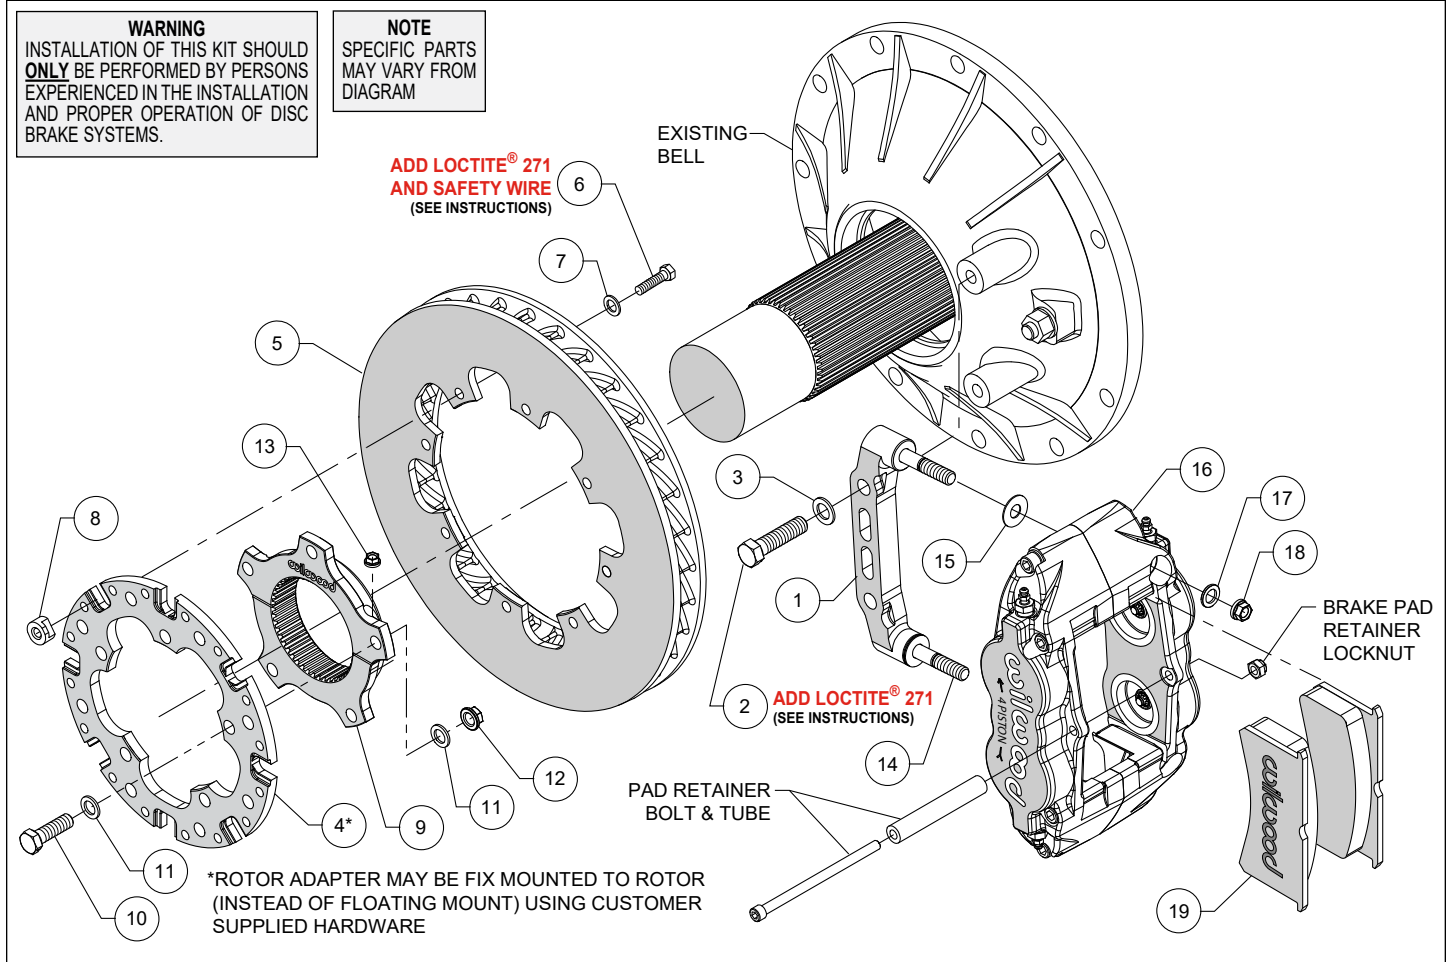

Figure 1. Typical Installation Configuration
**NOTE:** Numbers in parenthesis refer to the parts list and Figure 1 on the preceding pages.
- Orient the caliper mount bracket (1) as shown in Figure 1 and install using bolts (2) and washers (3). Temporarily tighten the mounting bolts. **NOTE:** The bracket must fit squarely against the mount bosses on the bell. Inspect for interference from casting irregularities, machining ridges, burrs, etc. Remove the bracket mounting bolts one at a time, apply red *Loctite*® 271 to the threads, and torque to 60 ft-lb.
- Orient the rotor adapter (4) and the rotor (5), as shown in Figure 1, and attach using bolts (6), washers (7), and t-nuts (8), Figure 1. Apply red *Loctite*® 271 to the bolt threads before installing. Finger
- Orient the axle clamp assembly (9) as shown in Figure 1 and install onto the rotor adapter (4) using bolts (10), washers (11), and lock nuts (12). Tighten lock nuts part way while still allowing clamp-to-rotor movement. The lock nuts will be final tightened later, after aligning the rotor. **NOTE:** *The axle clamp should be positioned inside of the rotor as shown in Figure 1, not offset, or outside of the rotor adapter.*
- Initially place one .035" thick shim (15) on each stud (14) as shown in Figure 1. Mount the caliper (16) onto the bracket (1) using washers (17) and lock nuts (18), Figure 1. Temporarily tighten the lock nuts (18) and view the rotor through the top opening of the caliper. The rotor should be centered in the caliper. If not, slide the rotor/adapter assembly on the axle until the rotor is centered in the caliper. Tighten the clamp lock nuts (13) first, Figure 1, locking the clamp to the axle. Torque rotor adapter lock nuts (12) to value shown in Figure 1.
- Remove the caliper brake pad retainer bolt, tube, and locknut from the caliper. Insert the brake pads (19) into the caliper, with the friction material facing the rotor. Check that the top of the brake pad is flush with the outside diameter of the rotor. If not, adjust by adding or subtracting shims (15) between the caliper and the bracket. After the caliper pad height is set, torque the caliper locknuts (18) to 30 ft-lb. Secure the brake pads in place with the brake pad retainer tube, bolt, and locknut, Figure 1. The locknut should be snug without play in the bolt or tube. Be cautious not to over tighten.